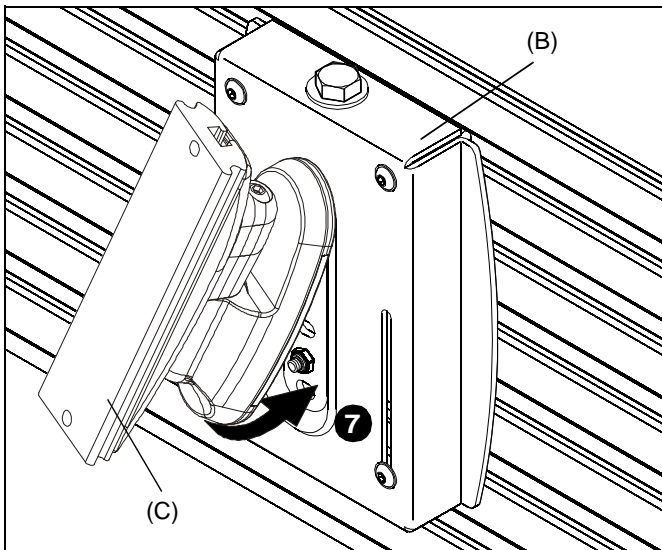

Figure 5
7. Swing mount (C) down flush against wall bracket (B). (See Figure 5)